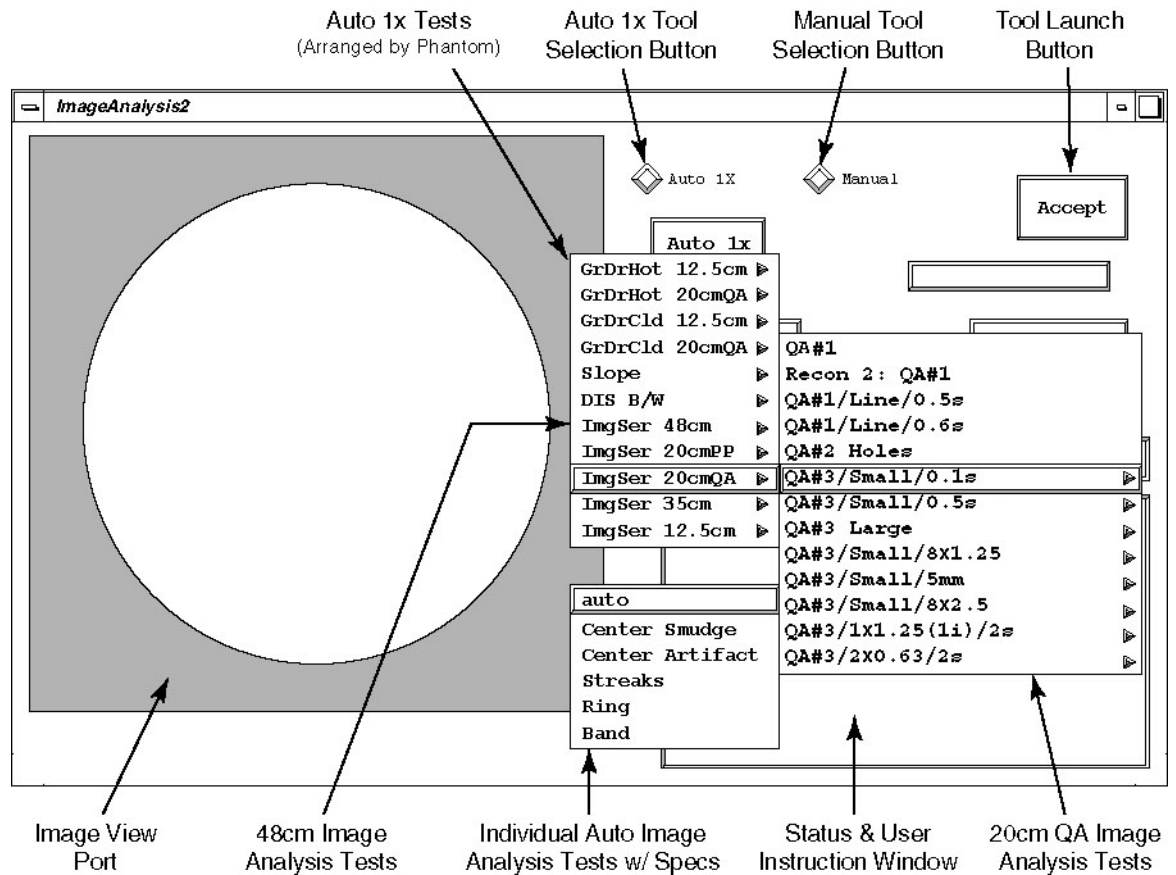

Figure 6-2 Image Analysis Tool User Interface - Auto 1x Test Pull Down Menu
- b.) On the Image Analysis Tool window, click on the AUTO 1X diamond shaped button. (See Figure 6-2, on page 234.)